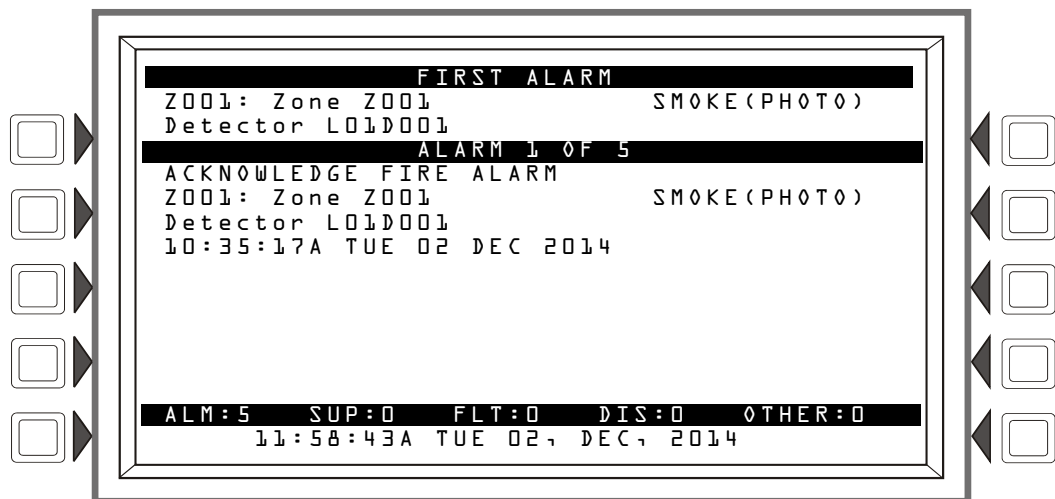

Figure 2.2 Fire Alarm Message Display Example
- Displays the FIRE ALARM Events List with the first fire alarm in the top section of the display containing a Type Code that indicates the type of device that activated the fire alarm, and other information specific to the device. The message occupies the second and third lines of the screen, replacing the System Normal message as shown in Figure 2.2 below. Refer to “Point Events Format” on page 6 for a full description of each message field